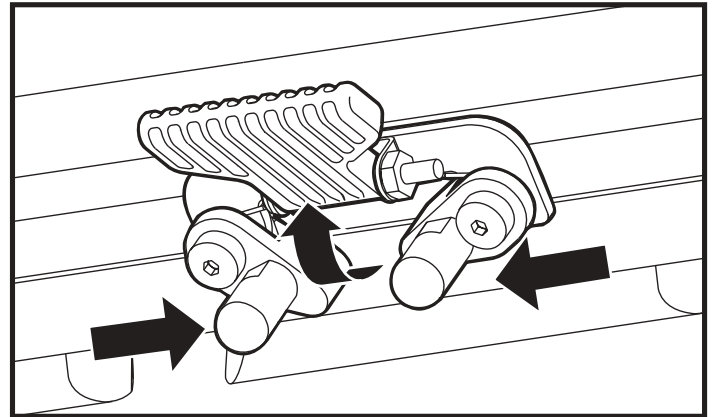

Figure 22. Seat Safety Latch
4. Flip up the seat latch safety. See figure 22.